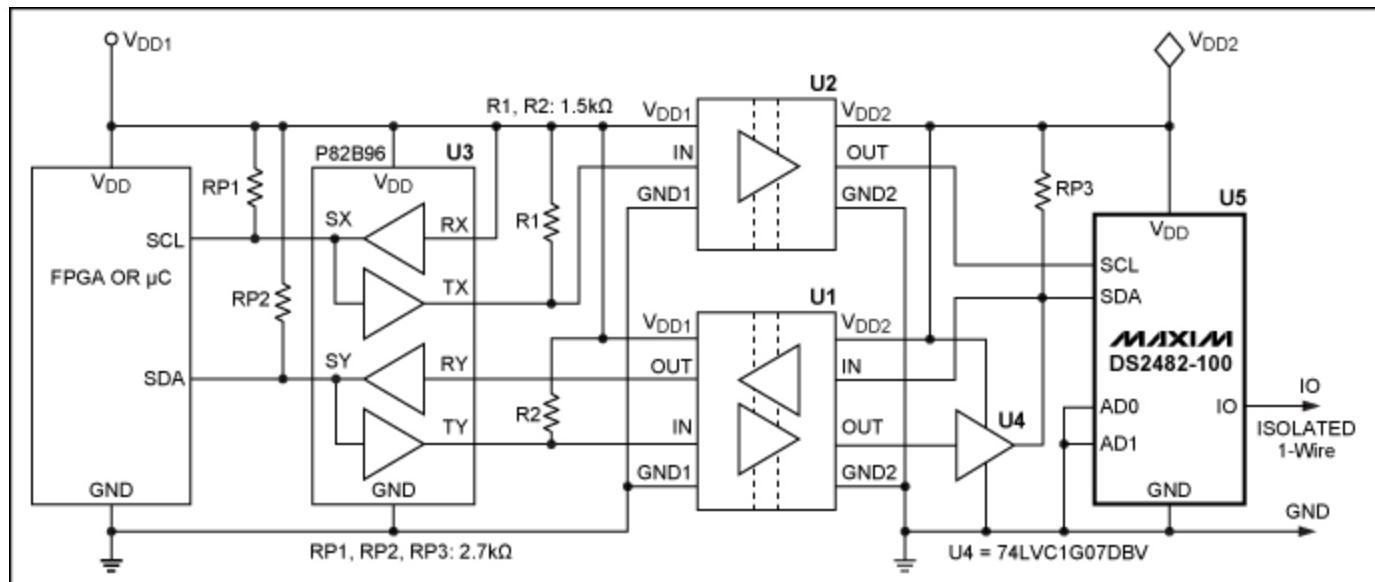

Figure 4. An isolated 1-Wire master circuit with an I2C protocol converter.
high for 1-Wire slaves and integrated 1-Wire masters. Before considering this circuit, verify whether the VOLMAX at SY is compatible to VILMAX at PIOA. The PCA9600 is an upgrade of the P82B96; it has half the propagation delay and a slightly reduced VOLMAX level, but consumes more power. Generally, the circuit in Figure 4 is a better alternative.
The circuit in **Figure 4** uses an integrated I2C to 1-Wire protocol converter. Isolators U1 and U2, bus buffer U3, open drain driver U4, and the resistors R1, R2, and RP3 are added. The lower part of U3 splits the bidirectional SDA path into the forward path (TY of U3 to IN of U1) and the backward path (OUT of U1 to RY of U3). The noninverting driver U4 joins the forward and backward path to the bidirectional isolated SDA. Since the 1-Wire master U5 does not use clock stretching, the SCL path (SX to TX of U3 and to IN of U2) is unidirectional. Therefore, it is permissible to connect the push-pull output of U2 to directly to SCL of the protocol converter. All the time critical operations are controlled by the 1-Wire master, which supports I2C clock rates of up to 400kHz. Consequently, the signal delay added by the bus buffer and isolator is not critical. Since the bus buffer already adds  $2 \times \sim 250\text{ns}$ , the isolator needs to be fairly fast, e.g., 50ns maximum per direction. Due to popular demand, I2C modules are available that combine the bus buffer, isolators, and driver in a single SOIC package.
**Table 2** shows characteristic parameters of the ADuM3100A and the ADuM3201B. The current consumption is much less than with optoisolators and does not depend on the logical state of the input. Some *iCoupler* devices include a DC-DC converter (*isoPower*® technology) to provide isolated power to the other side. Particularly convenient are the I2C modules ADuM1250 and ADuM1251, which merge U1, U2, U3 and U4 of Figure 4 into a single package.
**Table 4** shows characteristic parameters of the Si8410AB and the Si8422AB. The current consumption is very low, but—as with optoisolators—depends on the state of the input signal. The default output state (when the input side has no power) is either fixed (high or low) or an ordering option. Particularly convenient are the I2C modules Si8400AB and Si8401AB, which merge U1, U2, U3 and U4 of Figure 4 into a single package.